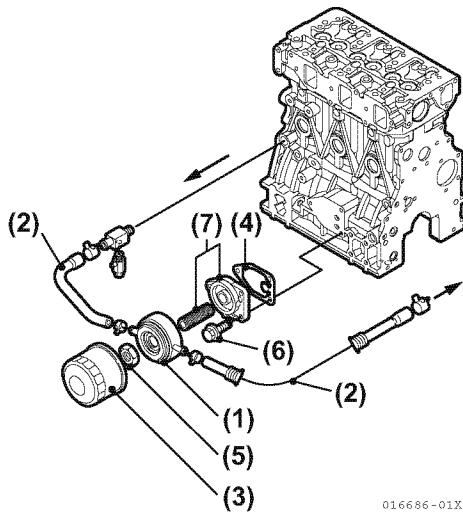

Figure 5-171
44. Install the filter bracket and gasket on the cylinder block (Figure 5-171).
- 45. Install the lubricating oil cooler to the filter bracket. Tighten the lubricating oil cooler nut (Figure 5-171, (5)).
- 46. Install the freshwater pipes: cylinder block, lubricating oil cooler, lubricating oil cooler, freshwater pump (Figure 5-171).
- 47. Install the lubricating oil filter with the filter case remover tool (Figure 5-171).